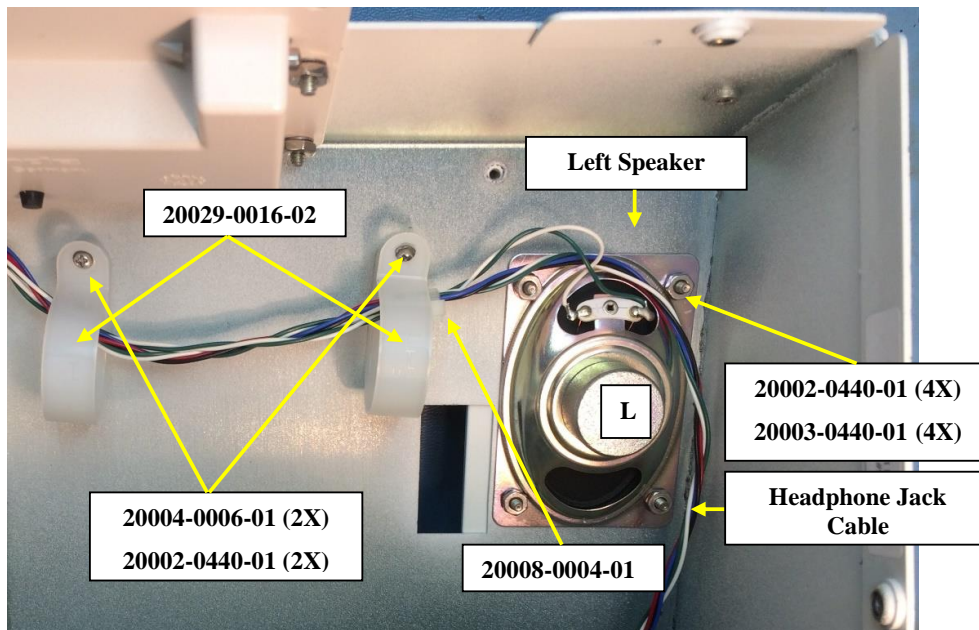
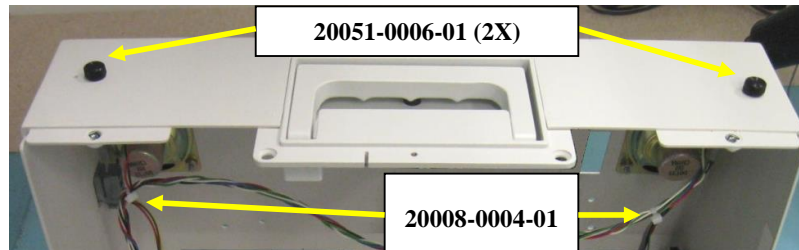

Figure 27
Figure 28
- 12.19. Mount the Left Speaker (made in Step 6) using four (4) 4-40 Lock washers (20002-0440-01) and four (4) 4-40 Nuts (20003-0440-01) to the right side of the chassis (viewed from inside) as shown in Figure 27.
- 12.20. Attach two (2) Plastic Loop Clamps (20029-0016-02) to the Chassis using two (2) 4-40x³/₈" Pan Head Screws (20004-0006-01) and two (2) #4 Lockwashers (20002-0440-01) as shown in Figure 27. *Note: Only mount the back half the Clamp and the Screws can be finger tight.*
- 12.21. Twist and secure the Left Speaker wires with the Headphone Jack Cable using a 4" Tie Wrap (20008-0004-01) as shown in Figure 27. Continue to route the cables through the Clamps then over the Right Speaker. Twist in the Right Speaker wires with the other cables and attach another Tie Wrap near that Speaker (see Figure 28).
- 12.22. Attach two (2) Plastic Headed Thumb Screws (20051-0006-01) as shown in Figure 28.